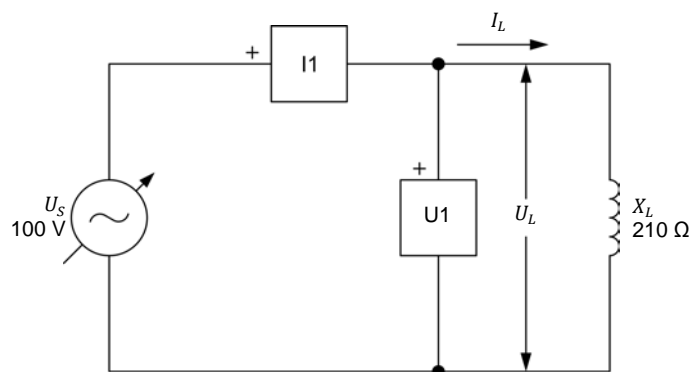

Figure 3-6. AC circuit containing an inductor and set up for power measurements.
20. Set up the circuit shown in Figure 3-6.